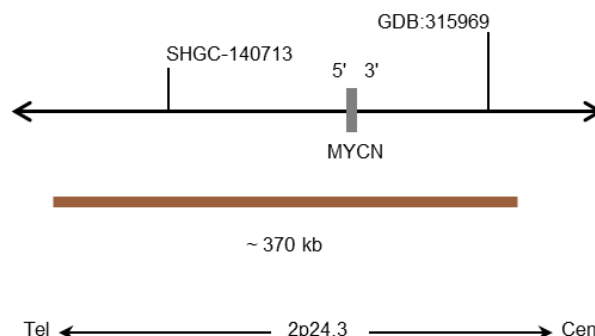

Fig. 1: SPEC MYCN Probe map (not to scale)
- Digoxigenin-labeled polynucleotides (~1.8 ng/μl), which target sequences mapping in 2p24.3* (chr2:15,846,046-16,213,717) harboring the MYCN gene region (see Fig. 1).